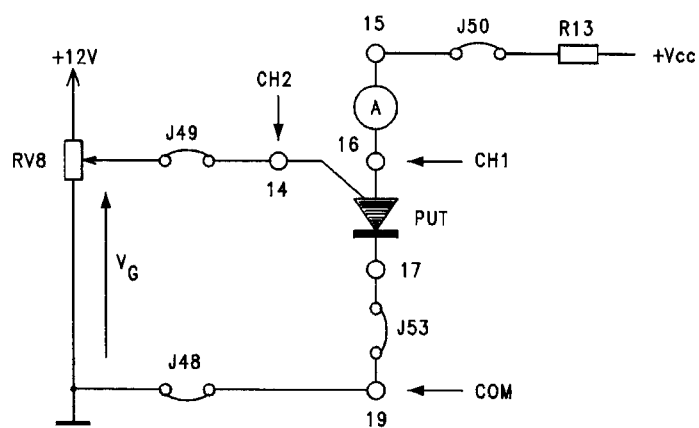

fig.B10.7
- Connect J48, J49, J53, J50 and the ammeter to produce the circuit of figure B10.7